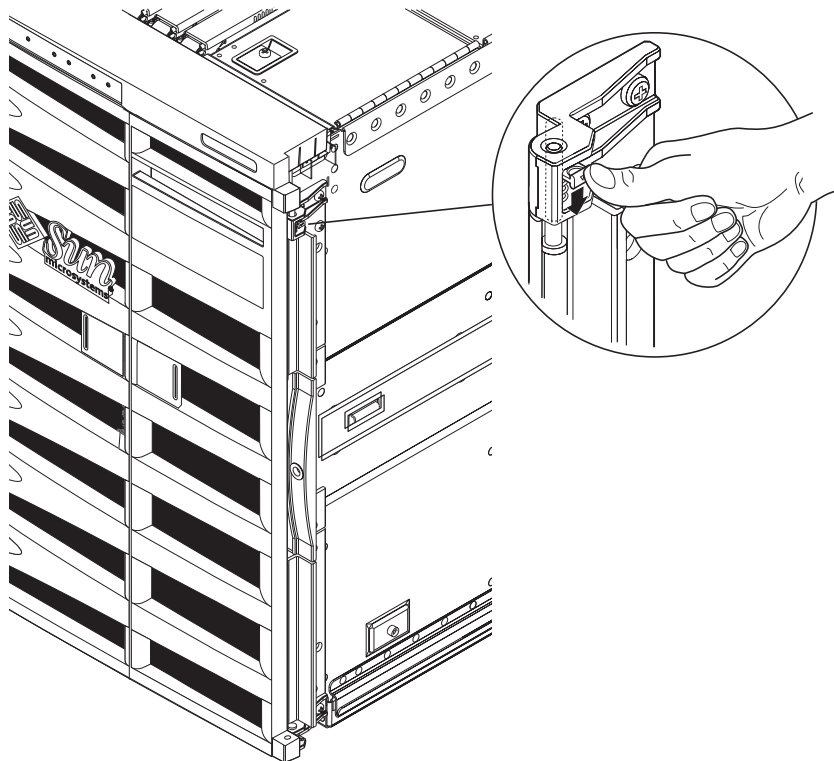

FIGURE 1-6 Releasing the Door Hinge Mechanism
1. Remove the front bezel doors (FIGURE 1-6).